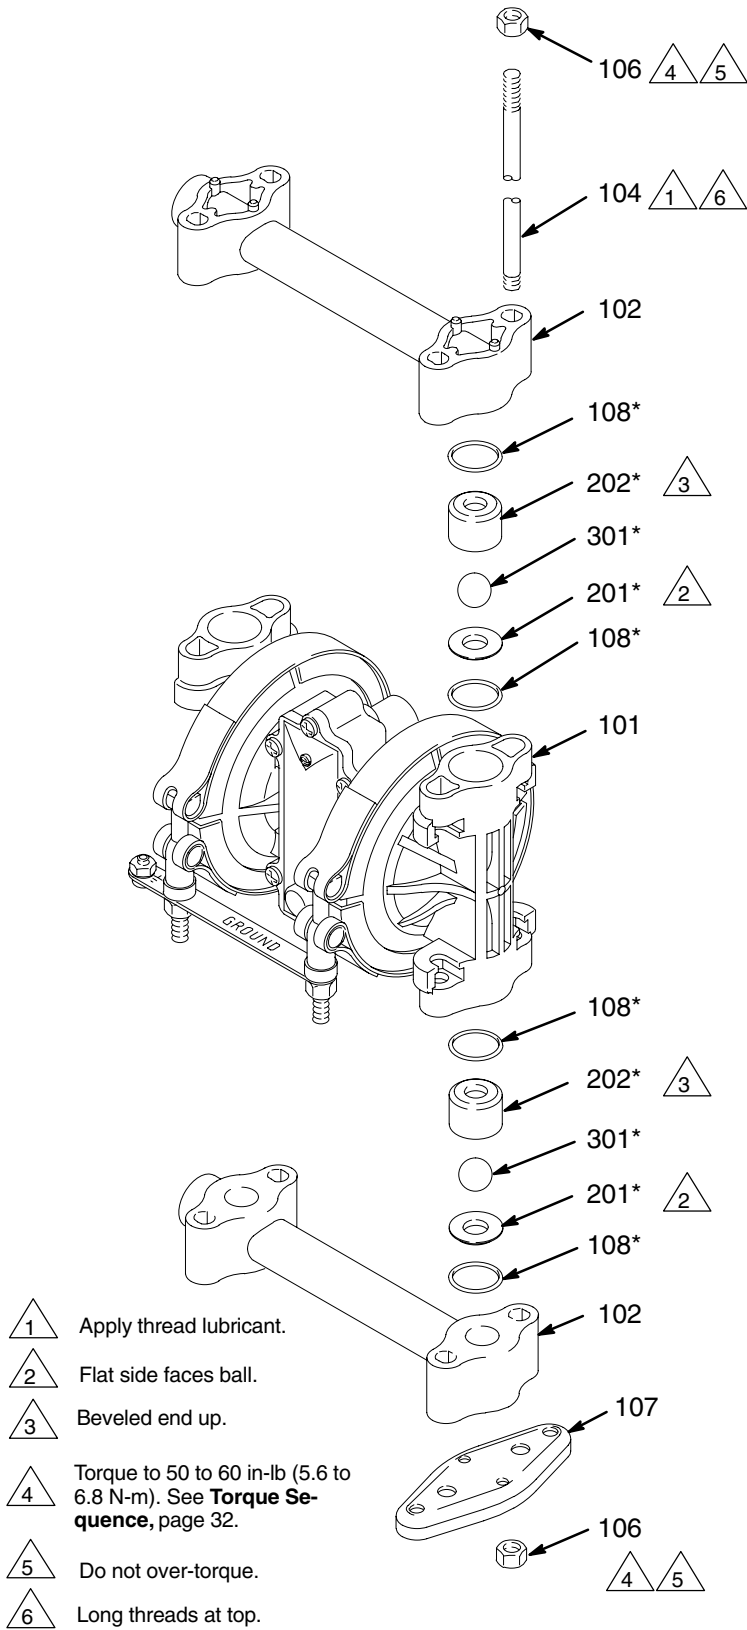

Fig. 15
2. Using a 1/2" socket wrench, remove the nuts (106) holding the top manifold (102) to the covers (101). Lift the manifold off the pump. See Fig. 15.
3. Remove the outer o-ring (108), ball guide (202), ball (301), seat (201), and inner o-ring (108) from each of the covers.
4. Turn the pump over. Pull the tie rods (104) out of the pump, leaving the four nuts (106) on the rods. Remove the feet (107) and lower manifold (102).
5. Remove the outer o-ring (108), seat (201), ball (301), ball guide (202), and inner o-ring (108) from each of the covers (101).
7. Reassemble the intake ball checks in the bottom of the pump, following all notes in Fig. 15. Be sure the ball checks are assembled **exactly** as shown.
8. Set the lower manifold (102) and feet (107) in place on the bottom of the pump.
9. Insert the long threads of each rod (104) through the feet and lower manifold. Push the rods up through the covers (101) until the nut (106) on the end of the rods bottoms on the foot. Make sure the rods are pushed all the way through. Turn the pump upright (the rods are a slight interference fit and will hold the pump parts securely in place).
10. Reassemble the outlet ball checks in the top of the pump, following all notes in Fig. 15. Be sure the ball checks are assembled **exactly** as shown. To avoid leaks, run your finger over the o-rings (108) to ensure that they are properly seated.
11. Install the top manifold (102) and four nuts (106). Torque to 50 to 60 in-lb (5.6 to 6.8 N-m). See **Torque Sequence**, page 32. **Do not over-torque.**